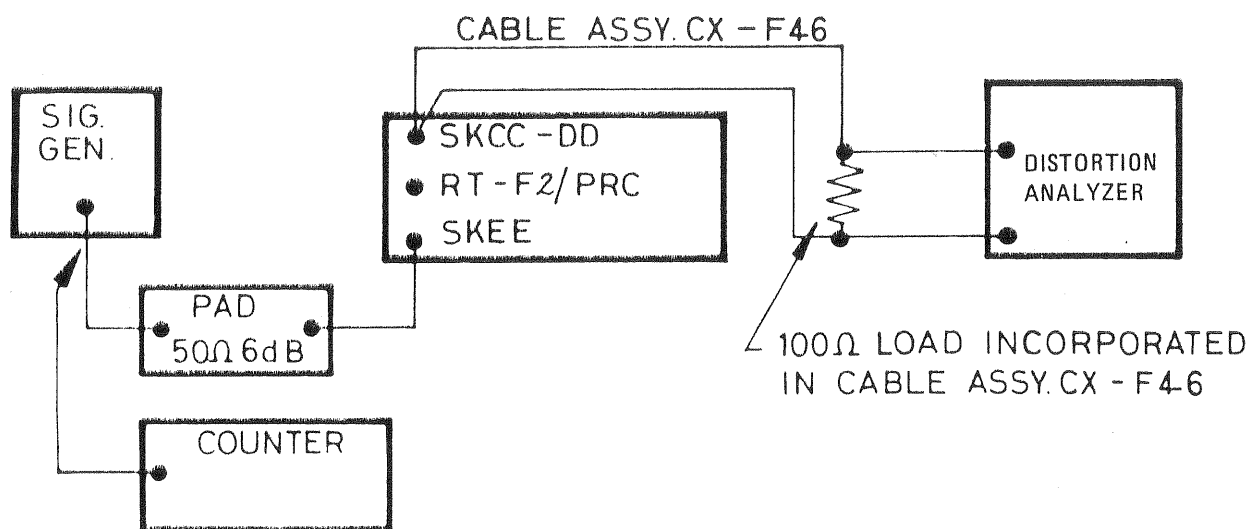

FIG 3 — RECEIVER AGC AND DISTORTION — TEST SET-UP
- a. Set up the equipment as shown in Fig 3.
- Connect the equipment as shown in Fig 3. Set the Mode switch to SSB and the R/T unit frequency selectors to 2500 kHz.